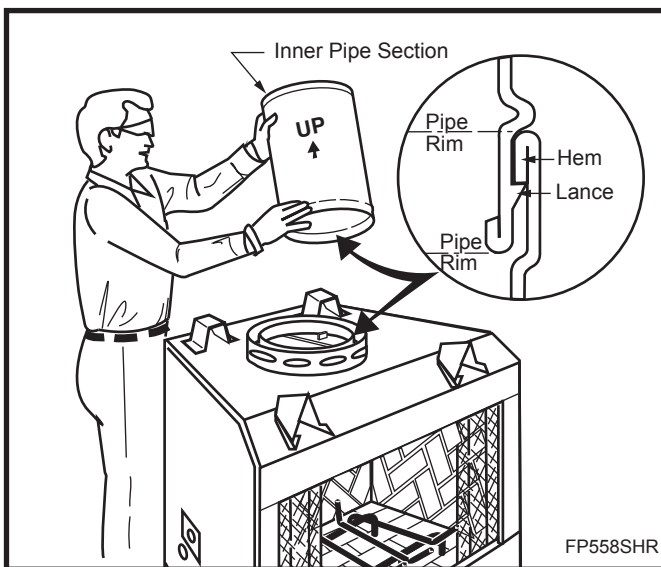

Fig. 19 Install pipe, listening for the snap-lock to fasten.
**CAUTION: WHEN INSTALLING A FIREPLACE IN AN INSULATED ENCLOSURE, BE SURE ALL REQUIRED AIR SPACES ARE MAINTAINED.** (Page 15, Fig. 19)
Install the pipe as pictured in Figure 19. When you get a good lock, you will hear the pipe clearly snap together. Once sections are snap-locked in place, it is extremely difficult to get them apart. **Make sure the pipe is firmly snapped and locked together as each pipe section is mounted.**